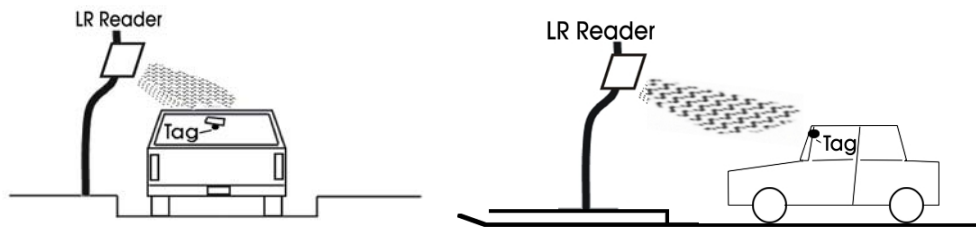
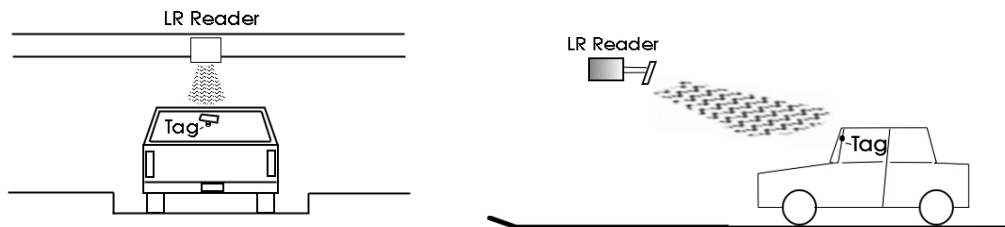

Figure 4. Passenger vehicles -- reader beside lane.
Figure 5. Passenger vehicles -- reader above lane.
1. Mount the reader so that it faces the WS-UHF tag at the "sweet spot" reading location. See Figures 4 and 5 for typical uses.
If the reader is *beside the lane*, mount the reader as close to the edge of the lane as possible without damage to the reader. Choose the left side of the lane when possible, because this side is easier for the driver (in right-lane-driving countries) to judge the vehicle's location relative to the left edge of the lane. Mount the reader on an adjustable bracket at a height of about 7 feet (for small cars, 6 feet may suffice). Attach or hold a UHF card or tag on the same side of the vehicle as the reader. Aim the reader at the tags when they are at the "sweet spot" – about 10 to 15 feet direct measurement from reader to tag as the vehicle approaches the reader. See Figure 4.
If the reader is *centered above the lane*, as inside a parking structure, mount the reader on an adjustable bracket at the lowest height that assures safe clearance between the reader and the highest vehicle. Hook a HT-UHF Hangtag over the inside rear-view mirror's stem, or attach an RV-UHF tag to the back of the mirror facing the reader, or adhere a WS-UHF Windshield Tag to the upper center of the windshield, behind the mirror, several inches below the top of the windshield. Aim the reader at the tags when they are at the "sweet spot". See Figure 5.
This application is a variation of Section 9.2. The reader beside the lane should be at about 7 feet height; the reader above the lane must be raised to clear the higher vehicles. Mount the tags and cards in small vehicles (sports cars) higher than in larger vehicles (SUVs). This places the tags and cards for all vehicles at about the same position relative to the reader. See Figure 4 and Figure 5.
Follow the general suggestions for vehicles in Sections 9.2 and 9.3, regarding the location of the reader mounting (beside the vehicle lane or over the center of the lane). Select the UHF card or tag that performs best in the combination of vehicle lanes, vehicle types, reader locations, and credentials characteristics. See Figure 4 and Figure 5.